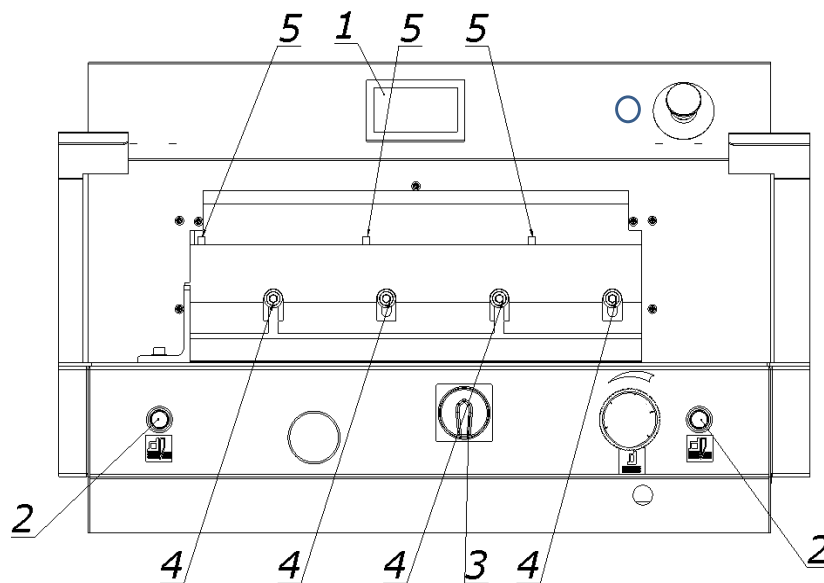

Figure 33.
8.1.2.9 Pressing the push buttons, 2  (Fig. 33) at the same time, start the cutting cycle. The knife will stop in the lower position.
8.1.2.10. Switch off the power supply of the electrical system by turning the main switch knob, 3 (fig. 33) to the "0" position
8.1.2.12. Remove (loosen) the fixing screws 4 (fig.33) so that the knife falls under its own weight on the cutting bar with its entire length.
8.1.2.13. Tighten the adjustment screws 5 (fig. 33) as far as they will go, so that the blade of the knife is cut into the cutting bar, approx. 0.3 mm.
8.1.2.14. Tighten the fixing screws 4 (figure 33)
8.1.2.15. Switch on the power supply of the electrical system by turning the main switch knob 3 (fig. 33) to position "I".
8.1.2.16. Turn off the "knife change" function on the programmer 1 (fig.33)
8.1.2.18. Turn off the power supply of the electrical system by turning the main switch knob 3 (fig. 33) to the "0" position
8.1.2.20. Turn on the power supply of the electrical system by turning the knob of the main switch 3 (fig.33) to position "I"